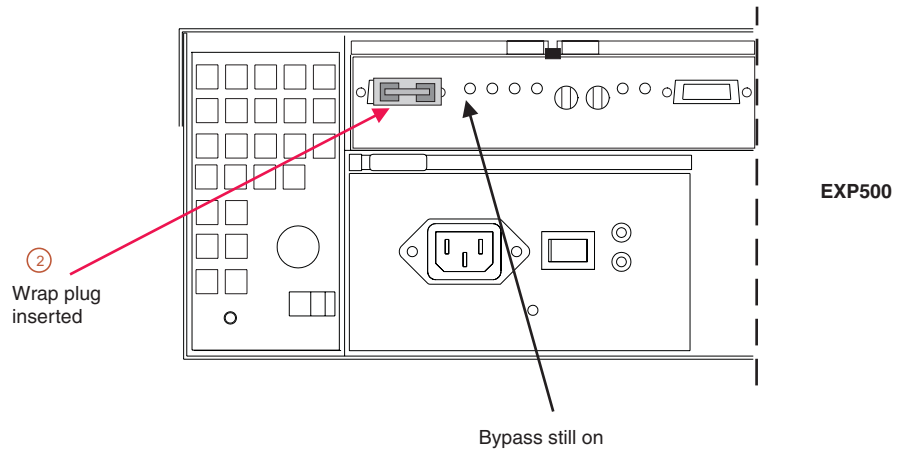

Figure 157. Insert wrap plug
2. Insert a wrap plug in the element from which you disconnected the cable. See Figure 157 on page 340.